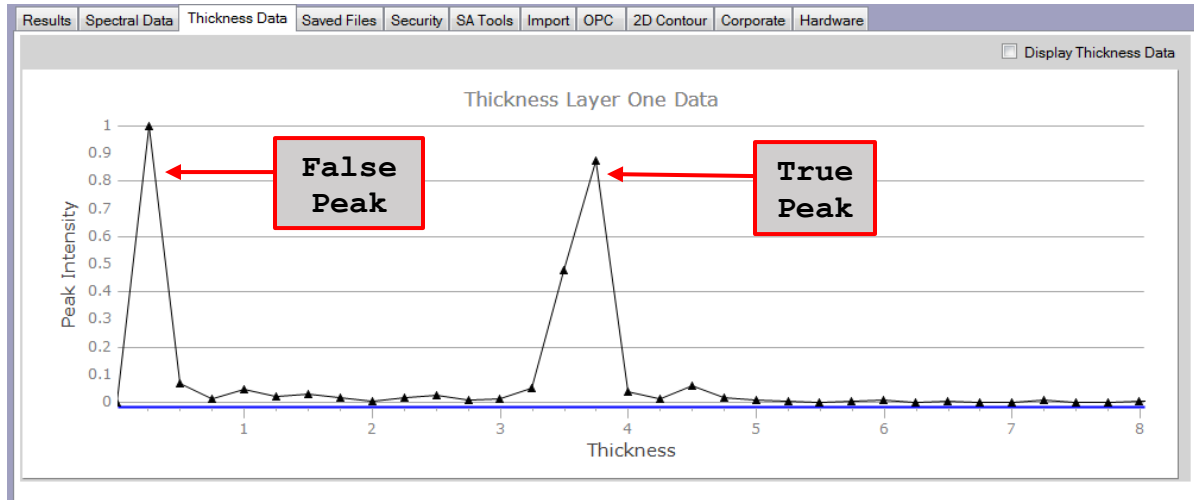

Figure 46 - True vs. False Thickness peak
- Click on the peak value of a cycle. λ_1 is automatically populated by the software (1,342.758 nm in Figure 46).